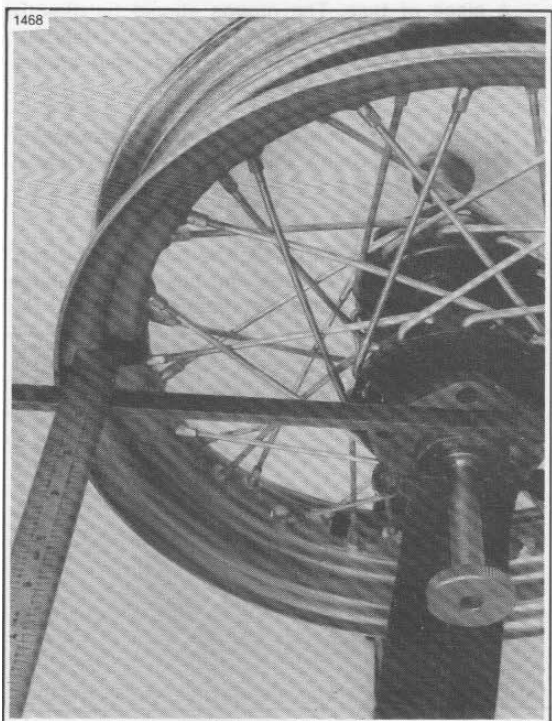

Figure 2-16. Centering 16" Hub
3. See Figure 2-16 and 2-17. The hub must be centered sideways with the rim. Lay a straightedge across the hub brake disc flange and one of the